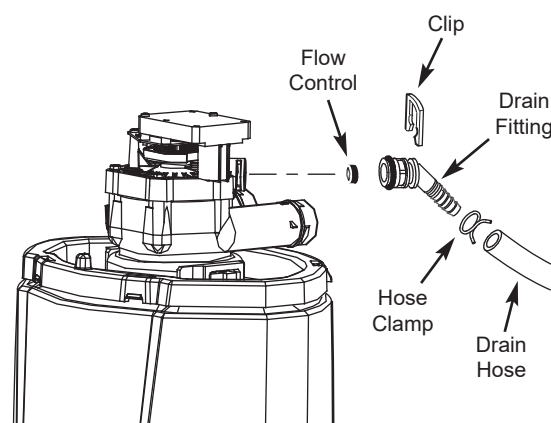

FIG. 25
1. Remove the clip holding the drain fitting into the valve (See Figure 25).